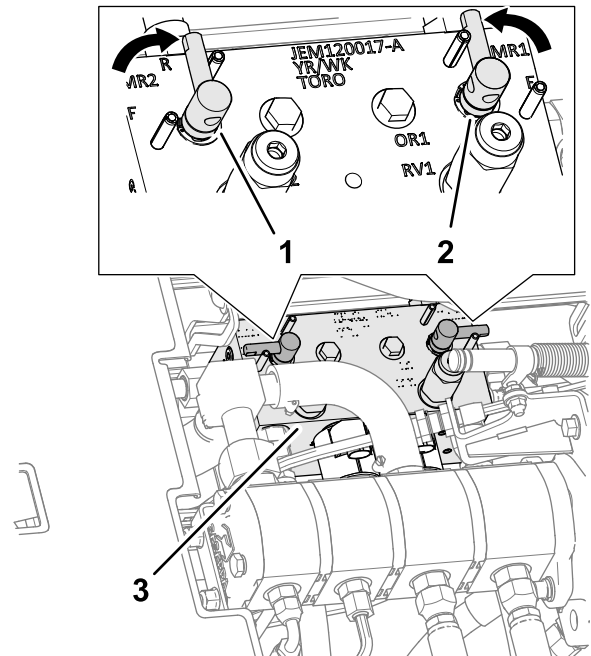

Figure 116
4. Unlock and raise the seat to expose the mower manifold (Figure 116).
5. Move the backlap levers to the R (backlap) position (Figure 116).